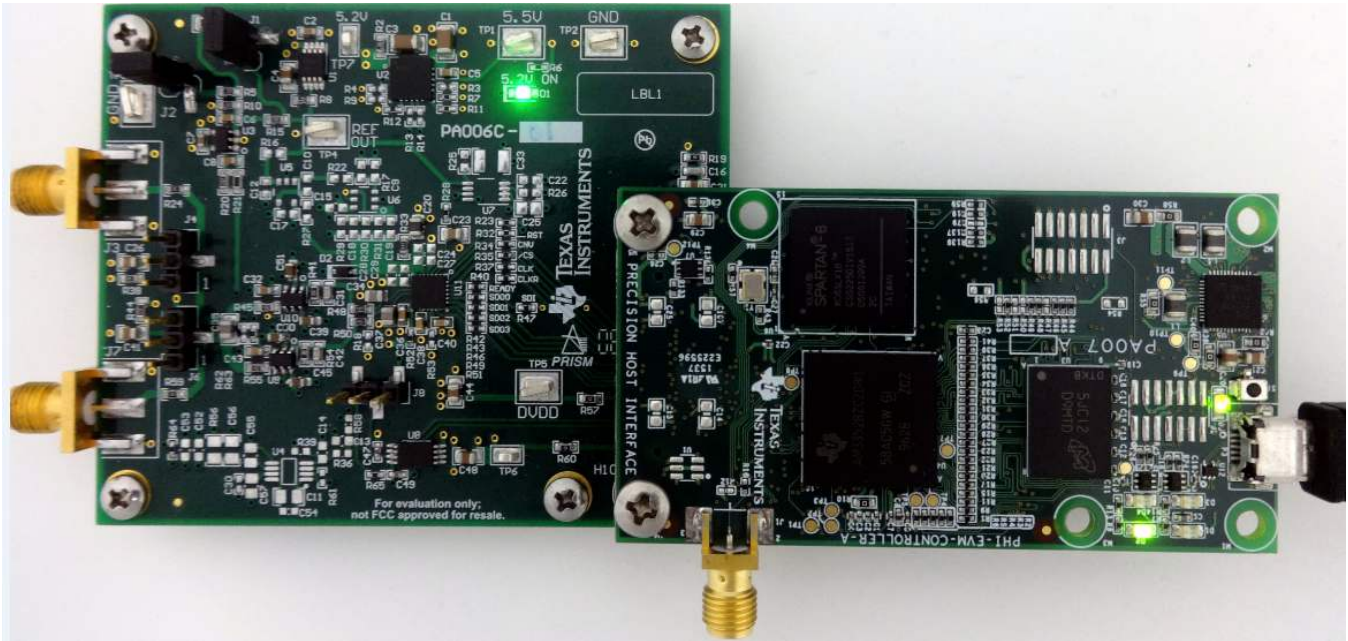

Figure 8. EVM-PDK Hardware Setup and LED Indicators
1. Connect the ADS9120EVM to the PHI. Install the two screws as indicated in Figure 8.
- LEDs D1 and D2 on the PHI starts blinking to indicate that the PHI is booted up and communicating with the PC. The resulting LED indicators are shown in Figure 8.